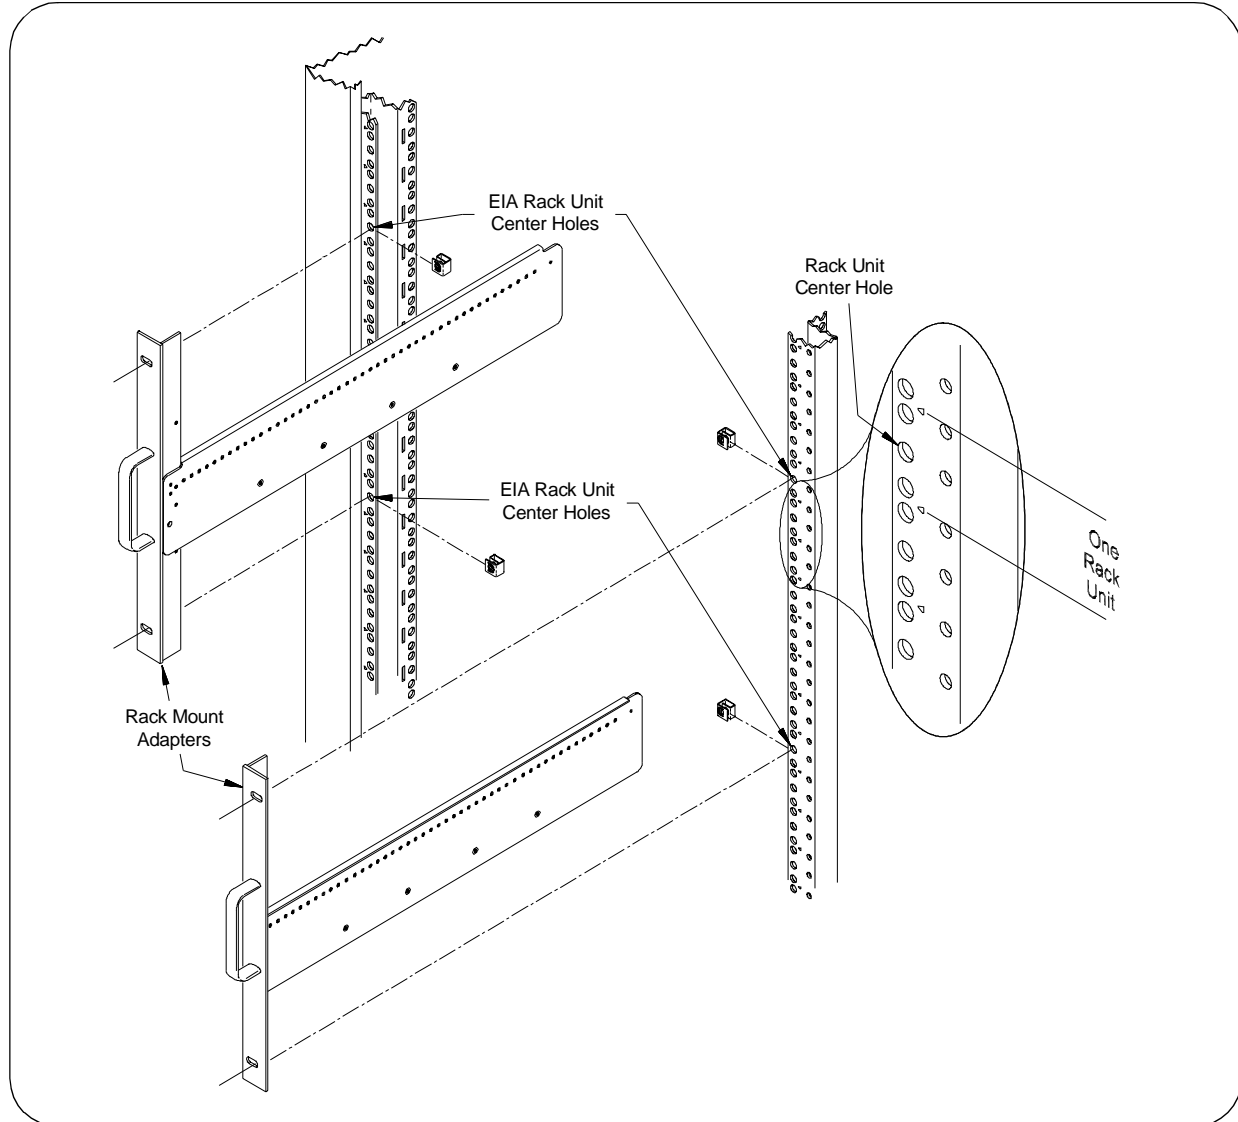

Figure 2 . Positioning the Mainframe in the Rack.
2. Using the rack mount adapters as templates, position the adapters on the rack's vertical columns where the mainframe is to be mounted. Align the adapter holes over the "center" holes of the EIA rack units (Figure 2).